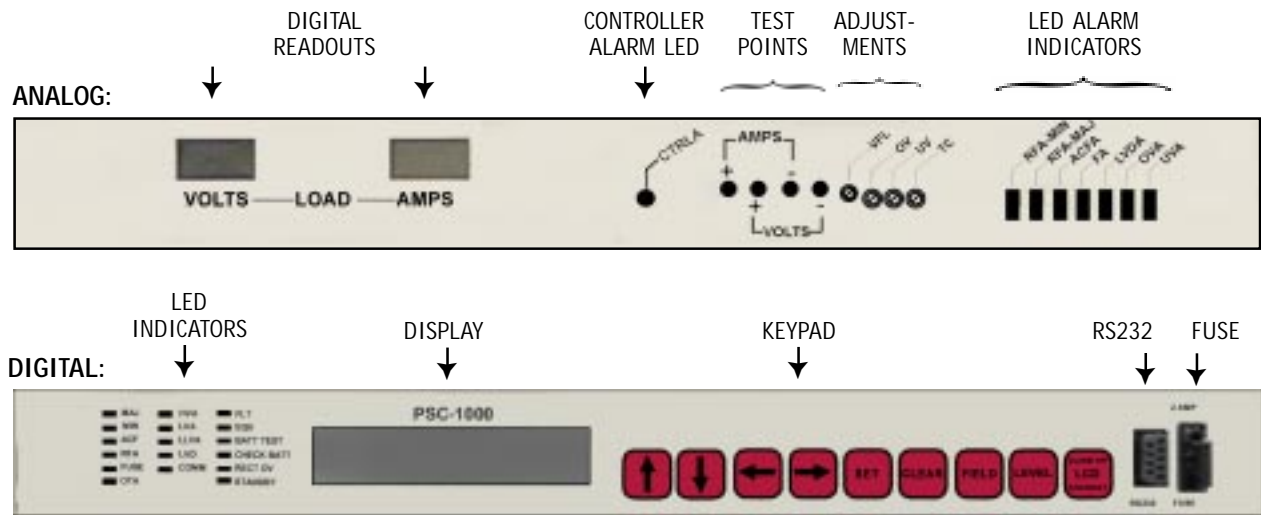

Figure 5. Analog and Digital Controllers
7.1 Analog Controller. This analog controller controls the system rectifier, monitors the system parameters and has alarms for system failures. See Figure 5. There are seven red LED alarms which also have Form C relay outputs to indicate a failure:
13.1 The analog controller is a basic control and monitoring system for the X150 power system. It controls up to 3 rectifiers, precisely setting the float voltage on all rectifiers simultaneously. It monitors the battery voltage and current by means of front panel test points or by the optional front panel digital voltmeter and ammeter. See Figure 5.
14.1 On the left side of the front panel are the optional digital voltmeter and digital ammeter. These meters read battery voltage and load current; the voltage and current test points read the same voltage and current. The ammeter and current test points use an internal 50mV shunt. See Figure 5.